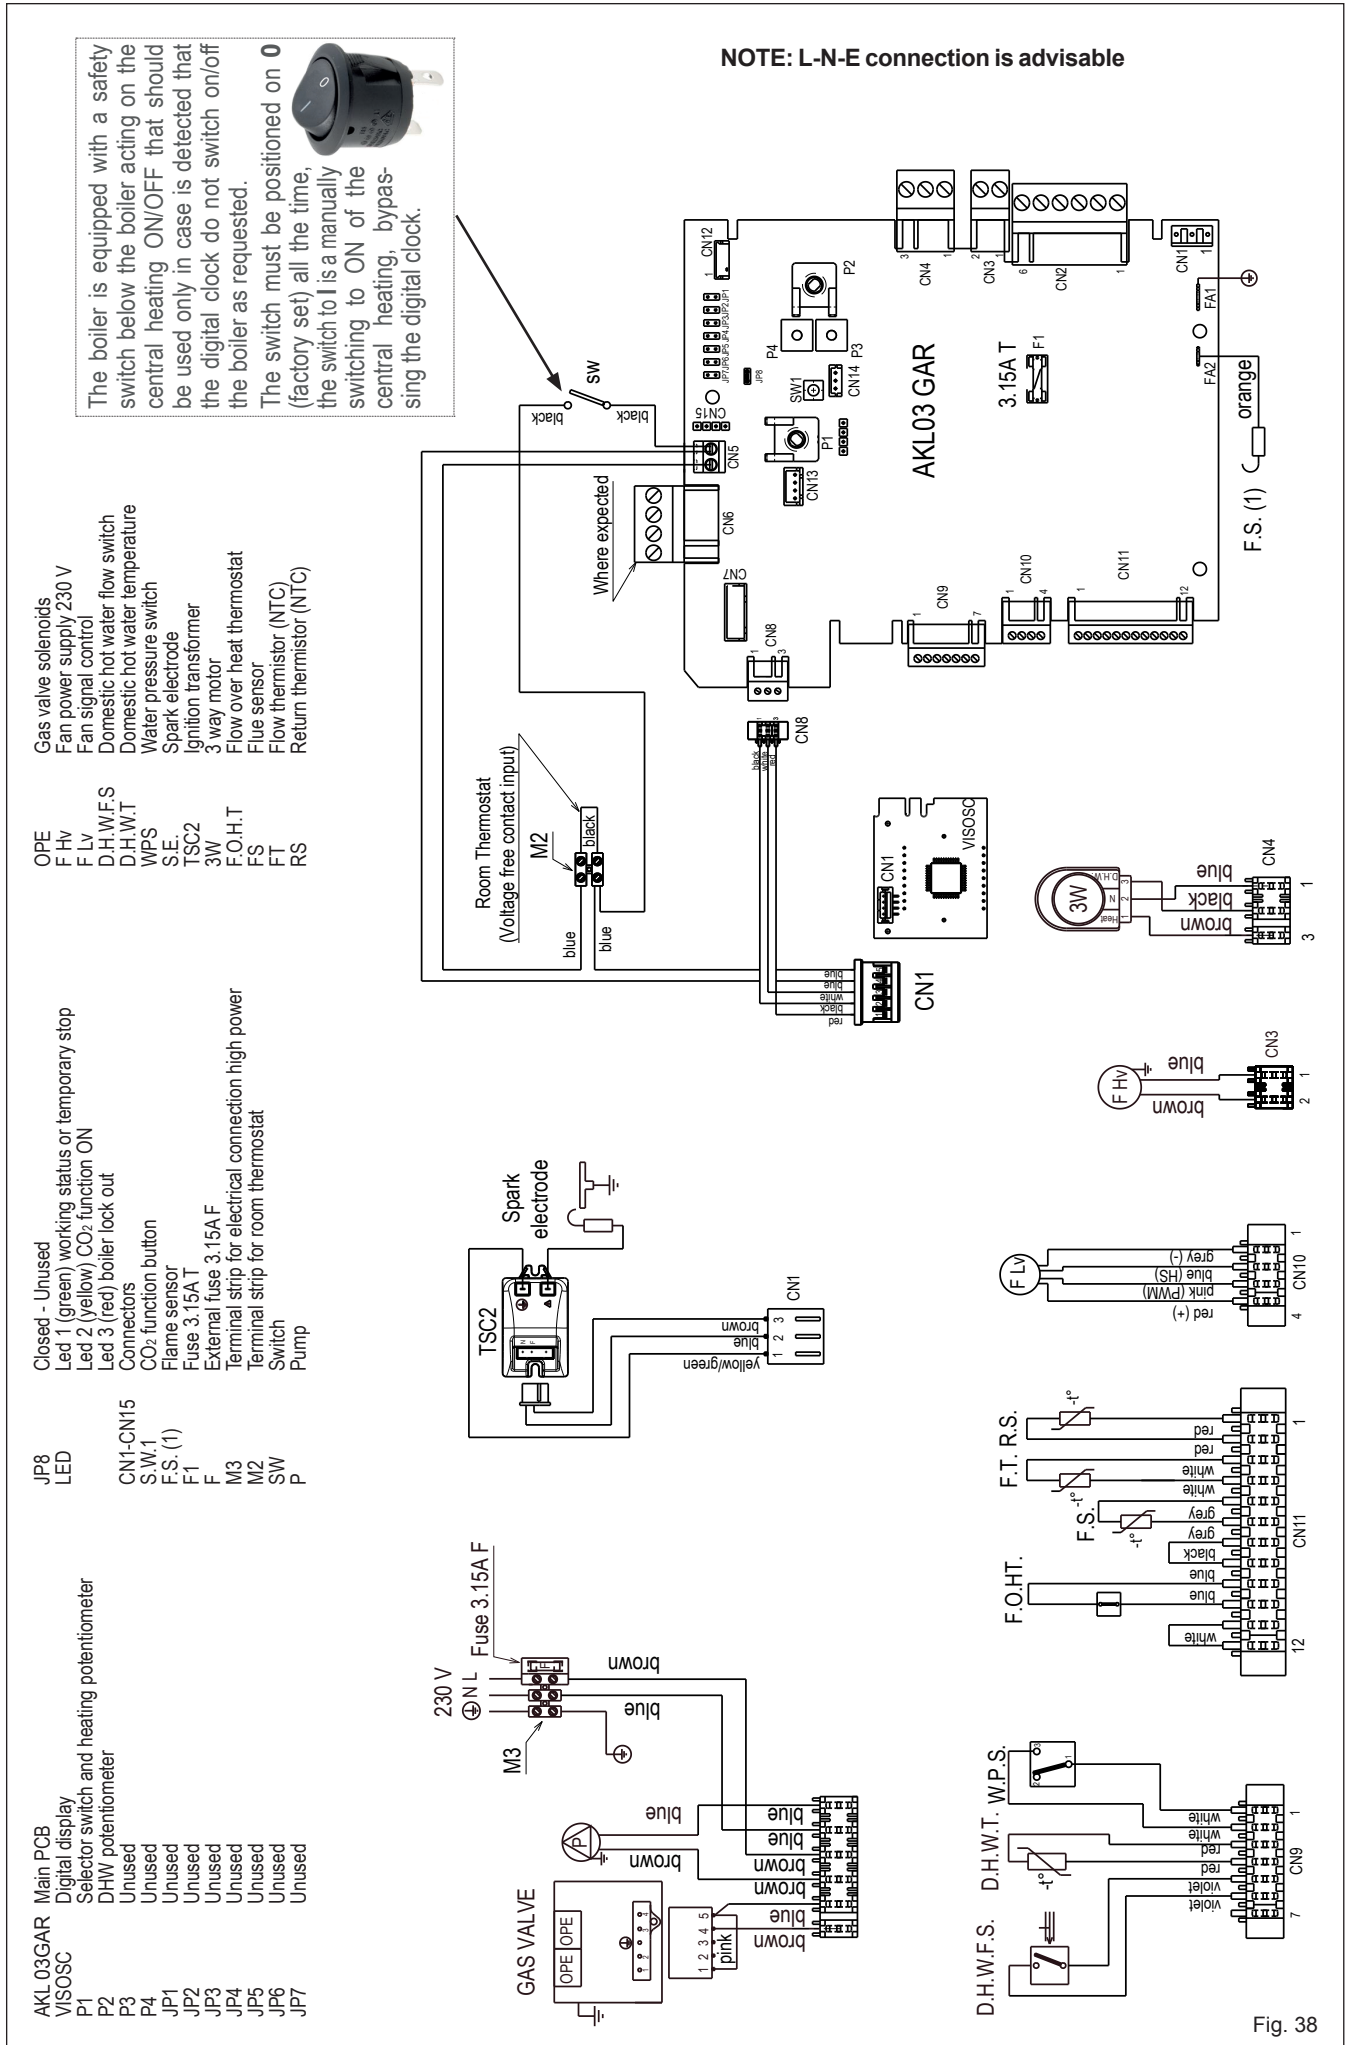

Fig. 38
- Locate the room thermostat connections at the cable connected to M2 (fig. 38).